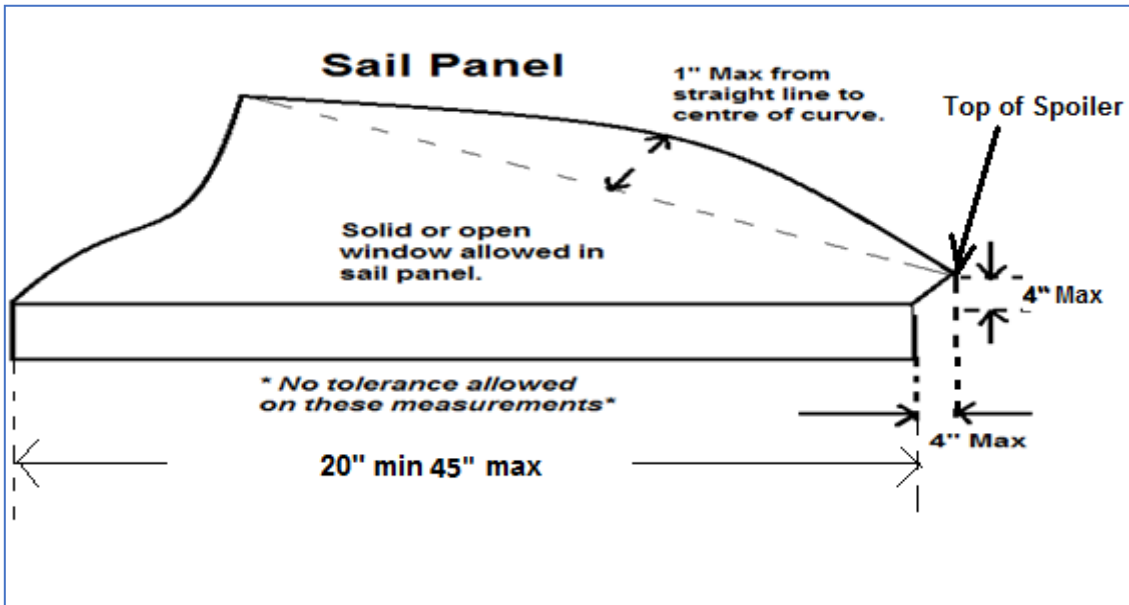

Figure 7
10.3 Sail panel must not exceed 1" (one) inch above or 3" (three) below an imaginary straight line from the rear edge of roof panel to 4" above the top edge of the back of the rear quarter panel (top of spoiler if used). Measurements are taken looking from the side elevation (Figure 7 & 8).
13.1 A one piece, aluminium or Lexan spoiler with a maximum height of 4 inches above the back of the rear deck will be permitted. The top of the spoiler may extend past the end of the rear deck by 4" (*Figure 7 & 8*).